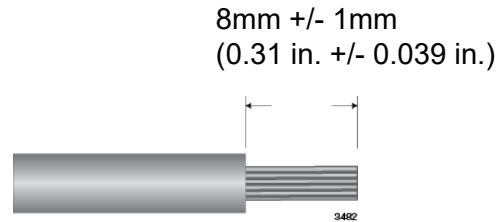

Figure 68. Stripped Wire
4. With a 14-gauge wire-stripping tool, strip the three wires in the tray cable coming from the DC input power source to  $8\text{mm} \pm 1\text{mm}$  ( $0.31\text{ in.} \pm 0.039\text{ in.}$ ), as shown in Figure 68 on page 139.